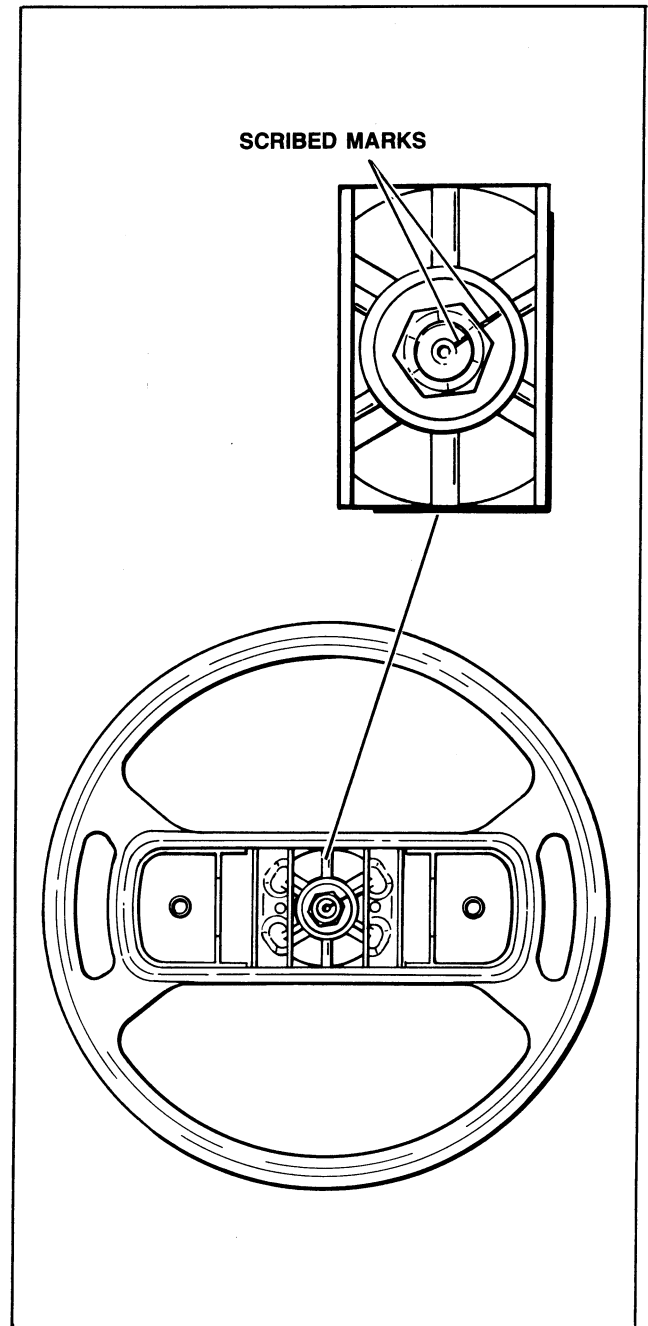

Figure 6 – Steering Wheel Removal
- Mark steering wheel and steering shaft so steering wheel can be replaced in the exact position as originally installed. See Figure 6.